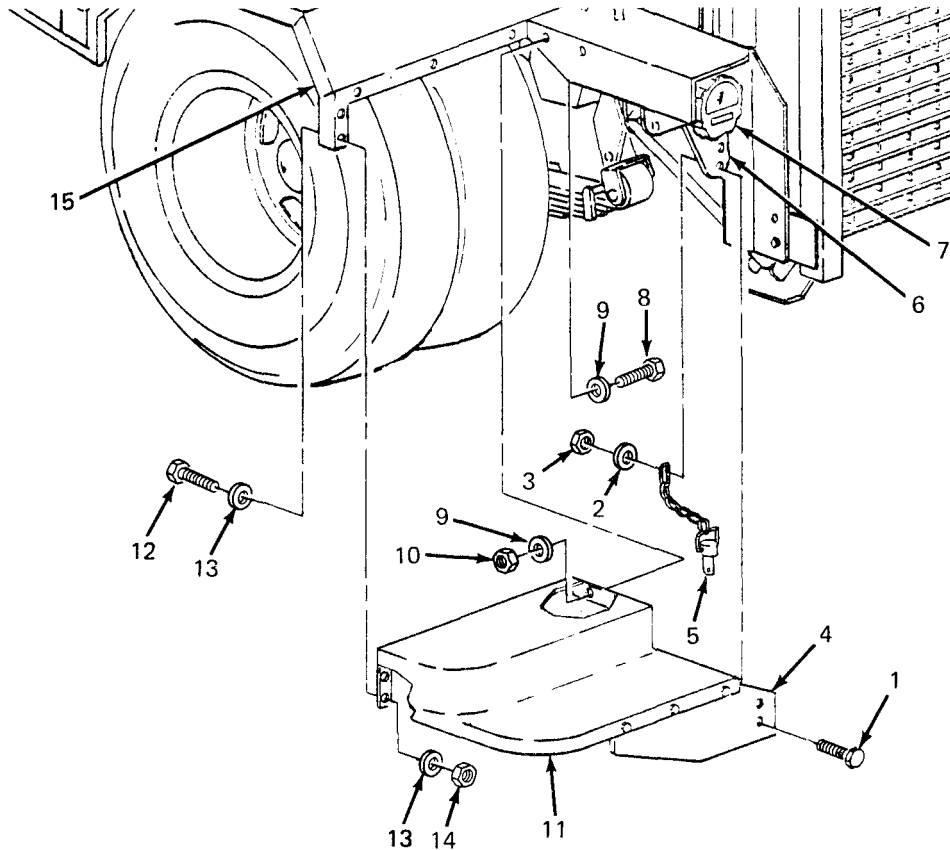

Figure 4-9. Rear Steps Replacement.
4-21. Rear Steps Replacement. (See figure 4-9.) The roadside and curbside rear steps are symmetrical, and replacement procedures are the same for each.
- (1) Remove two screws (1, figure 4-9), two flat washers (2) and two nuts (3) securing rear step bracket (4) and platform anchor (5) to trailer frame (6) under taillight (7).